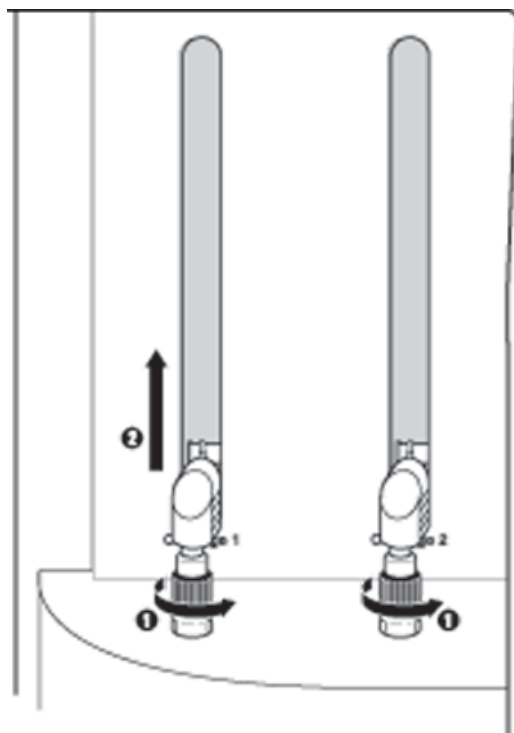

Fig. 6.23. Arrows indicate direction to twist the cartridge fitting and lift the arm to prepare the position(s) for installing cartridge(s).
1. Disconnect the upper and lower cartridge fittings (Figure 6.23).